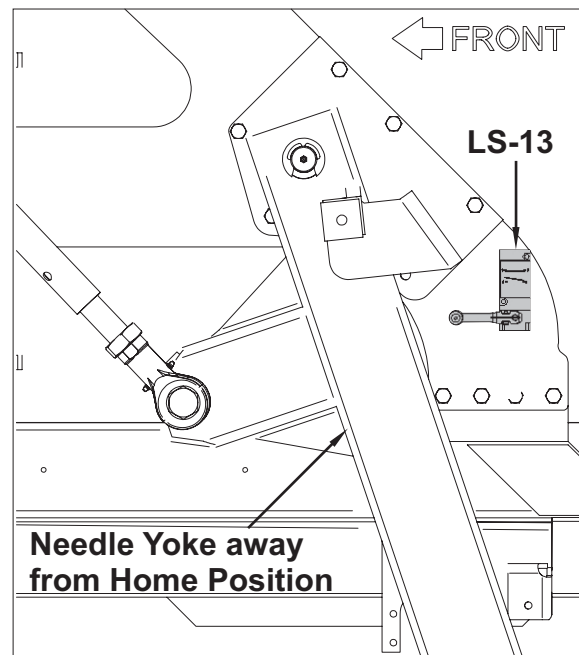

Figure 108 - Needle Away from Home Position and Away from LS-13
4. Adjust LS-13 roller arm as shown in Figure 108.
LS-13 (see Figure 108) Prevents plunger from extending while the needles are away from home position. The plunger can extend when needles are in the home position.